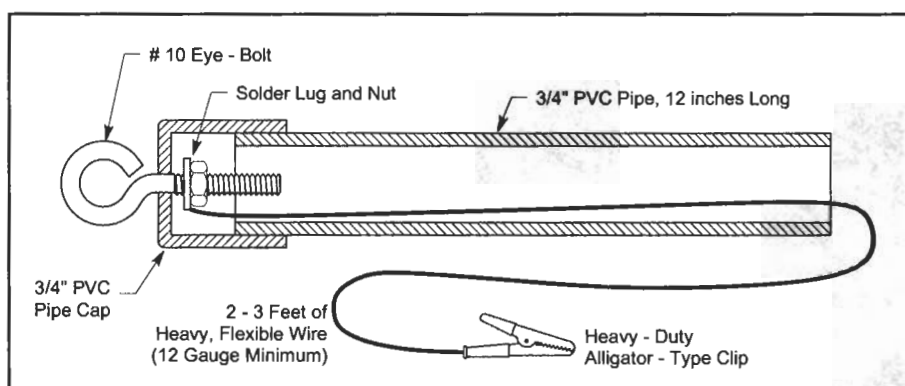

Figure 1—The "chicken stick" is a great way to ensure that everything inside the amplifier that should be discharged actually is. It can be a life saver.
Fig. 1—Schematic diagram of the NEL1306 and NEL1320 1296-MHz solid-state power amplifiers. The schematic is identical for both versions. Component values are the same except as noted.
- **A Chicken Stick**—Make this simple safety accessory shown in Figure 1 and use it whenever you work on equipment in which hazardous voltages have been present. The ground wire should be heavy duty (12 gauge minimum) due to the high peak currents (hundreds of amperes) present when discharging a capacitor or tripping a circuit breaker. When equipment is opened, touch the tip of the stick to every exposed component and connection that you might come in contact with. Assume nothing—accidental shorts and component failures can put voltage in places it shouldn't be.